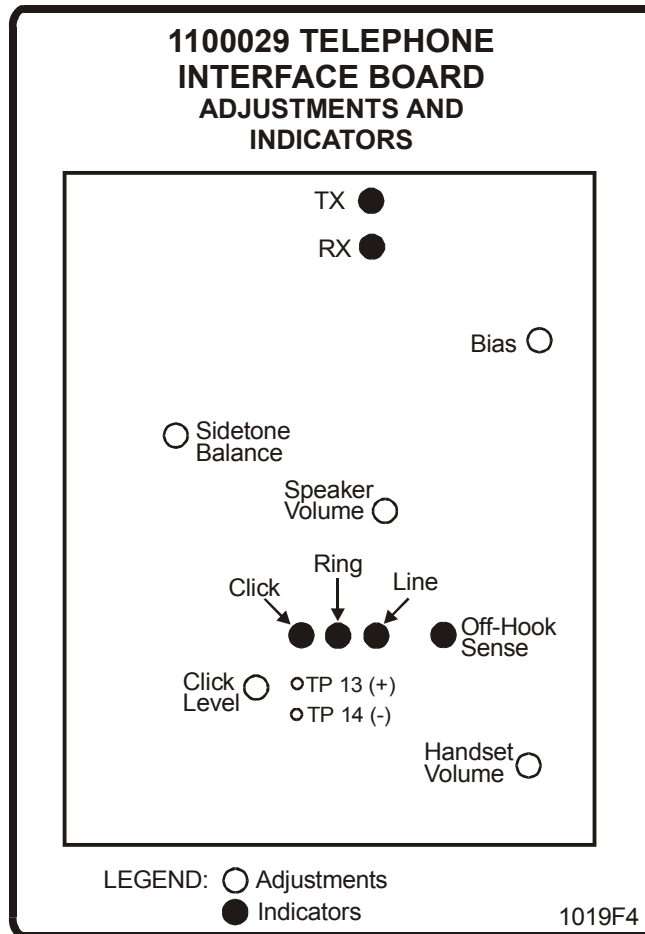

Figure 6. Telephone Interface Board, Adjustments and Indicators.
1. When the Infinity dials, the "OFF HOOK SENSE" indicator LED on the telephone interface board (see Figure 6) should illuminate and the person dialed should receive the call.
Before making any adjustments, the model of the telephone interface board must be determined (model 1100029). Look for the number located on the upper left-hand edge of the telephone interface board, preceded by the letters "ASSY". Refer to the circuit board shown in Figure 6 for adjustments.
- 1) Locate TP 13 and TP 14 to the right of the "CLICK LEVEL" pot (see Figure 6).
1. Set the "CLICK LEVEL" pot (see Figure 6) to the center of its range.
2. Turn the "TENANT BIAS" pot (see Figure 6) counter-clockwise if your voice is being clipped, and clockwise if the tenant's voice is being clipped. Adjust and retest until clipping is gone.
2. If connection is made, the "TRANSMIT MODEM DATA" and "RECEIVE MODEM DATA" indicators (see Figure 6) should flash as data is transmitted and received, and you should be able to access the programming mode described in Section 10 of the programming manual.